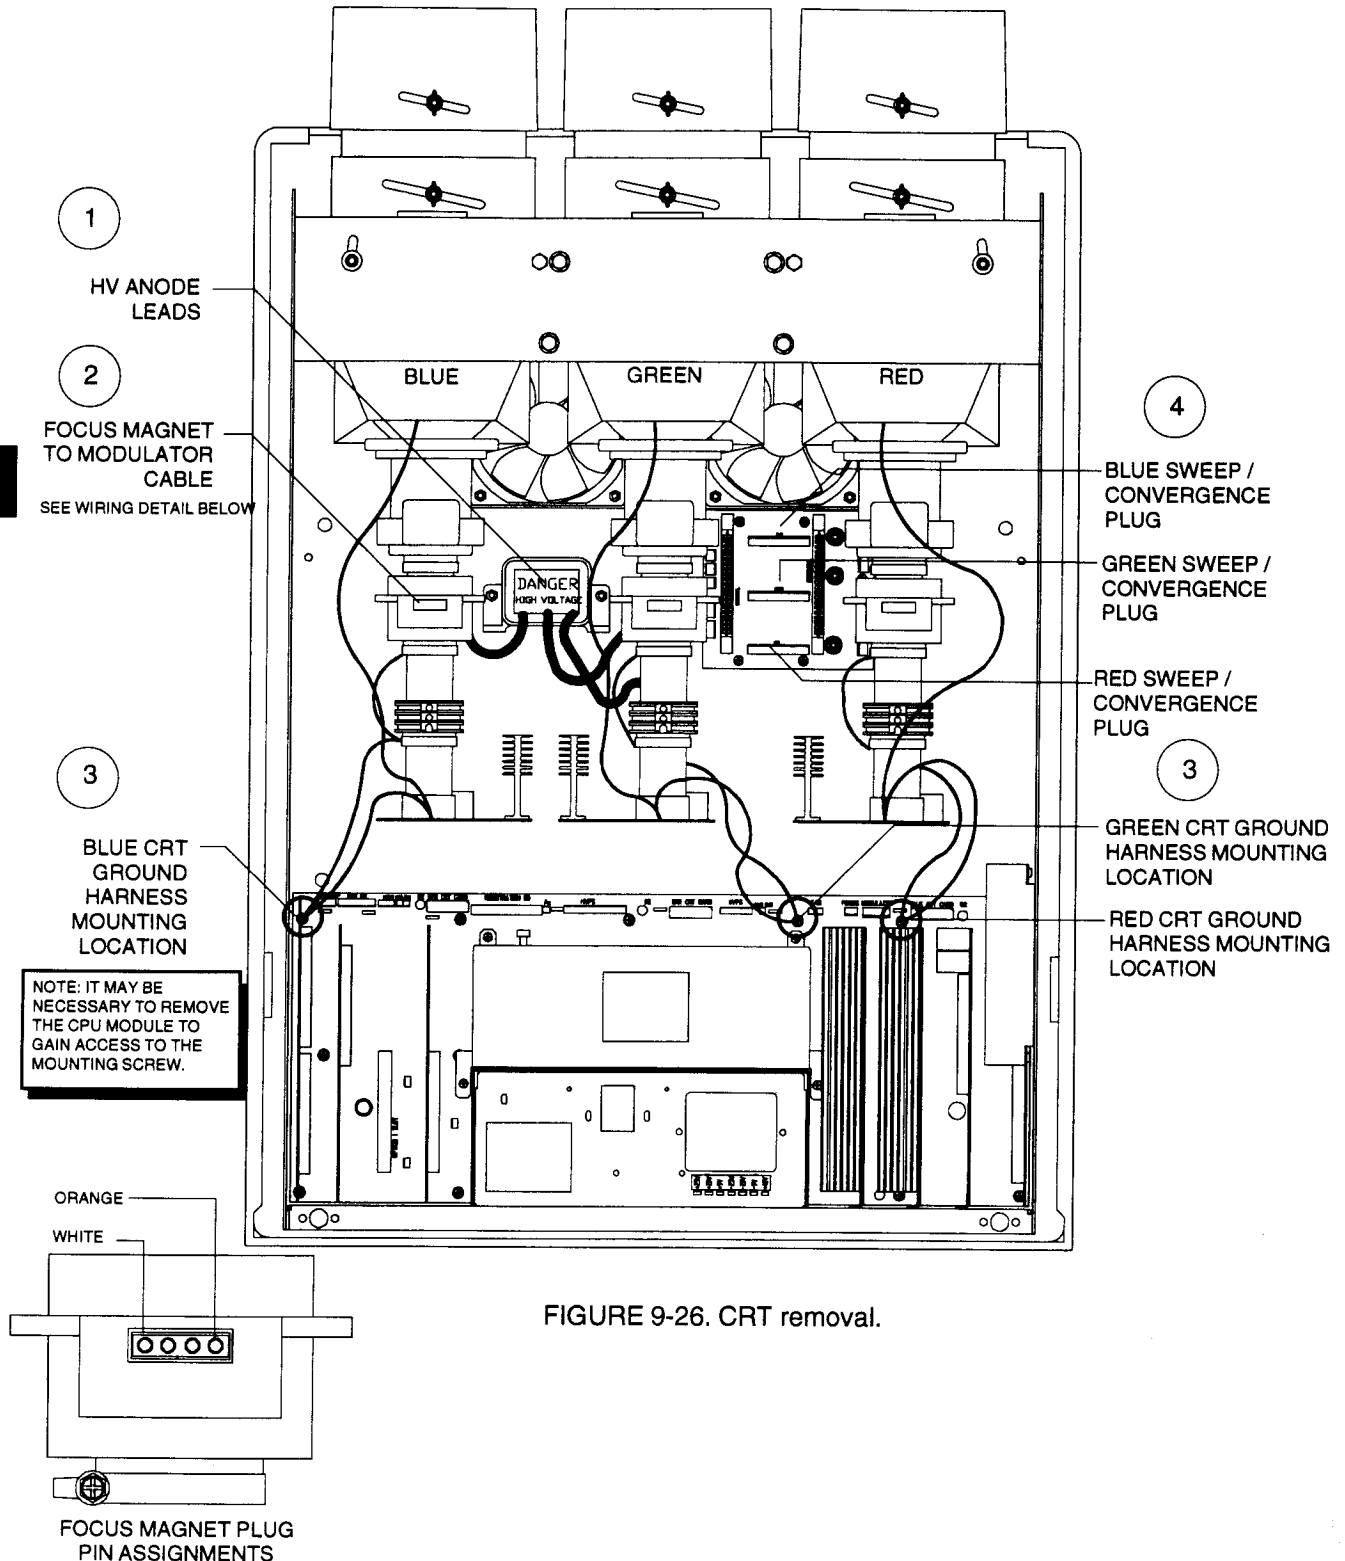

FIGURE 9-26. CRT removal.
- STEP 4. On the defective CRT disconnect the following; ① High Voltage anode lead, ② Focus magnet cable connector, ③ ground harness from the mother board location and ④ the respective sweep/convergence plug from the yoke interface board. See Figure 9-26.